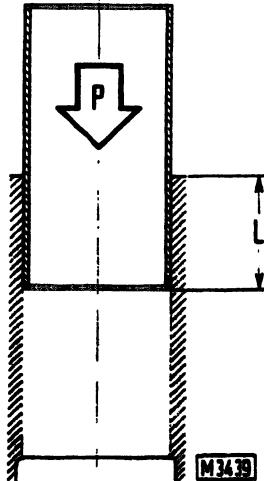

Fig. 8 - Installing cylinder sleeves in the block.
- after driving in the sleeve  $70 \pm 90$  mm (2.75  $\pm 3.54$  in) check load to be  $\geq 1400$  daN (3146 lb.) (fig. 8);